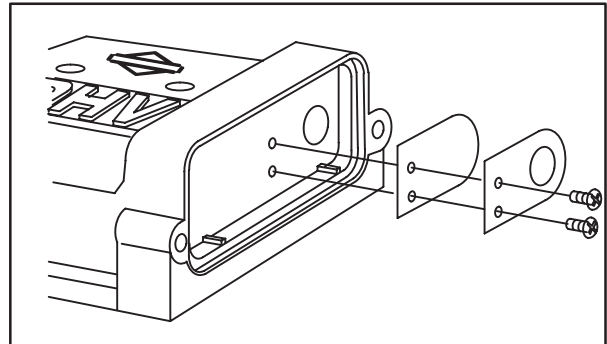

Fig. 13
1. Assemble reed valve and reed stop to breather body, **Fig. 13**. Tighten screws securely.